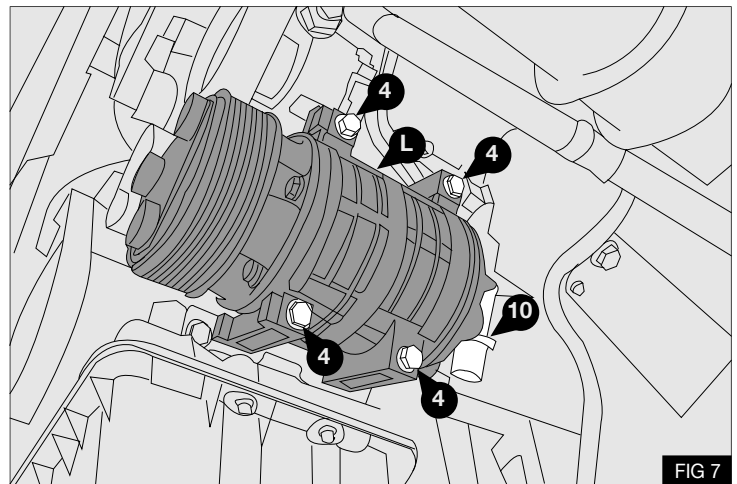

FIG 7
1. Install the compressor (L) (Not supplied) using the four supplied bolts (4) M8 x 90 - Fig.7
2. Torque bolts (4) to 17Nm / 13lb.ft. using a calibrated torque wrench.
3. Fit the supplied manifold (10) to the compressor using the original M10 bolt- Fig.7